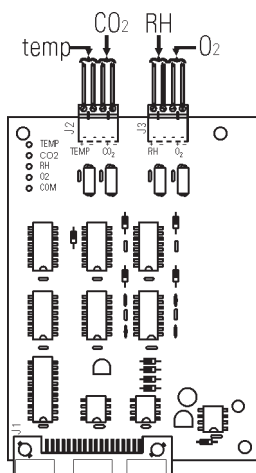

Figure 6-4. Analog Output Board
- Carefully slide out electronics drawer and locate the Analog Output board (Figure 6-4).